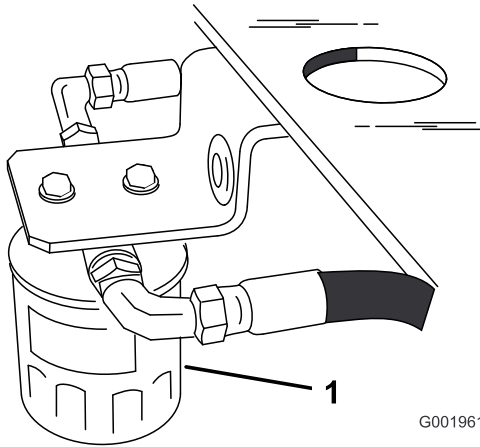

Figure 47
4. Locate the filter under the fuel tank and place drain pan under filter (Figure 47).
5. Remove the old filter and wipe the filter adapter gasket surface clean (Figure 47).